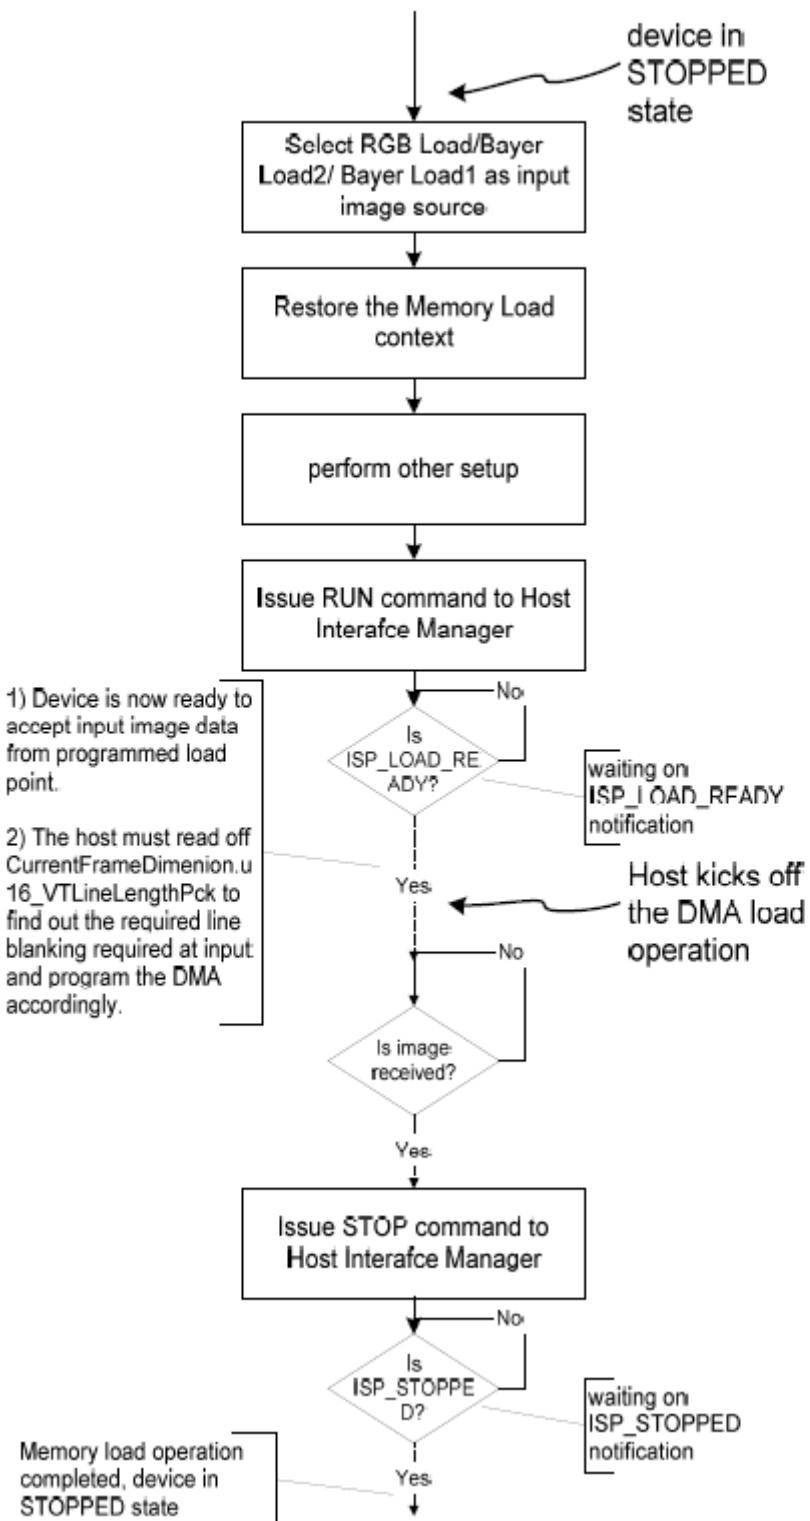

Figure 2 Bayer Memory Load
- Host will wait for ISP LOAD READY event. When this event has occurred, it means firmware has done all its computations for scalar outputs which are needed by HOST to program DMA to run Striping. Now Host must program DMA correctly and start the memory load. Memory Load operation is explained in figure:2 as well.